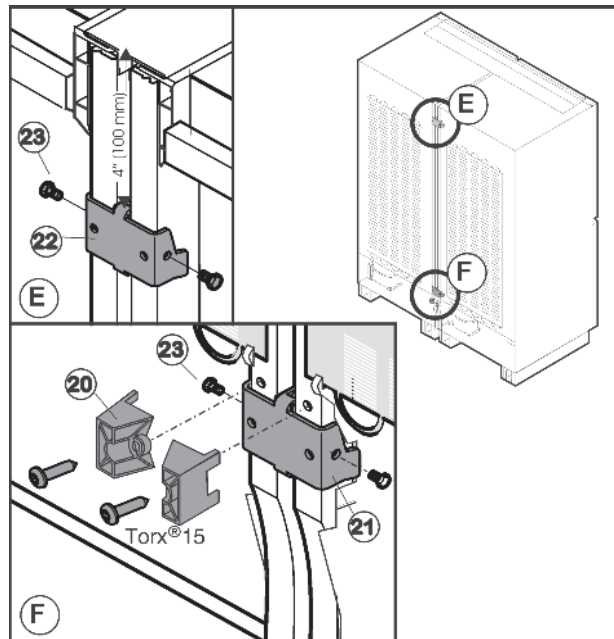

Fig. 45
- ▶ Remove the spacers Fig. 45 (20) from the lower reverse side of the appliances.
- ▶ Position the upper connecting piece and Fig. 45 (23) screw Fig. 45 (21) on from the side.
- ▶ Position upper connecting piece Fig. 45 (22) and screw Fig. 45 (23) on from the side.
- ▶ Tighten the screws Fig. 45 (23).